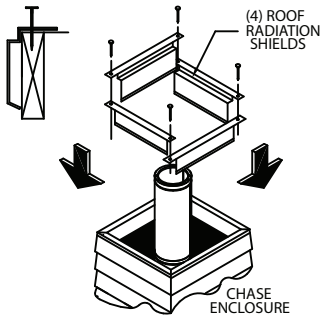

Figure 10
(2) 8-penny nails or two (2) #8, 1-1/2" wood screws per side (Fig. 10).